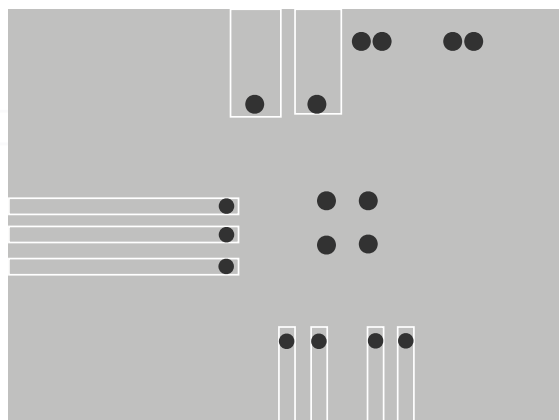

**Figure 2 — Recommended PCB Layout**
The layout diagram in Figure 2 illustrates a proper two-layer PCB layout for the SC653 and supporting components. Following fundamental layout rules is critical for achieving the performance specified in the Electrical Characteristics table. The following guidelines are recommended when developing a PCB layout:
- The following capacitors — CLDO1, CLDO2, and CBYP — should be grounded together through an isolated copper island. Using no vias, connect the island only, to pin 7 as shown in Figure 2.